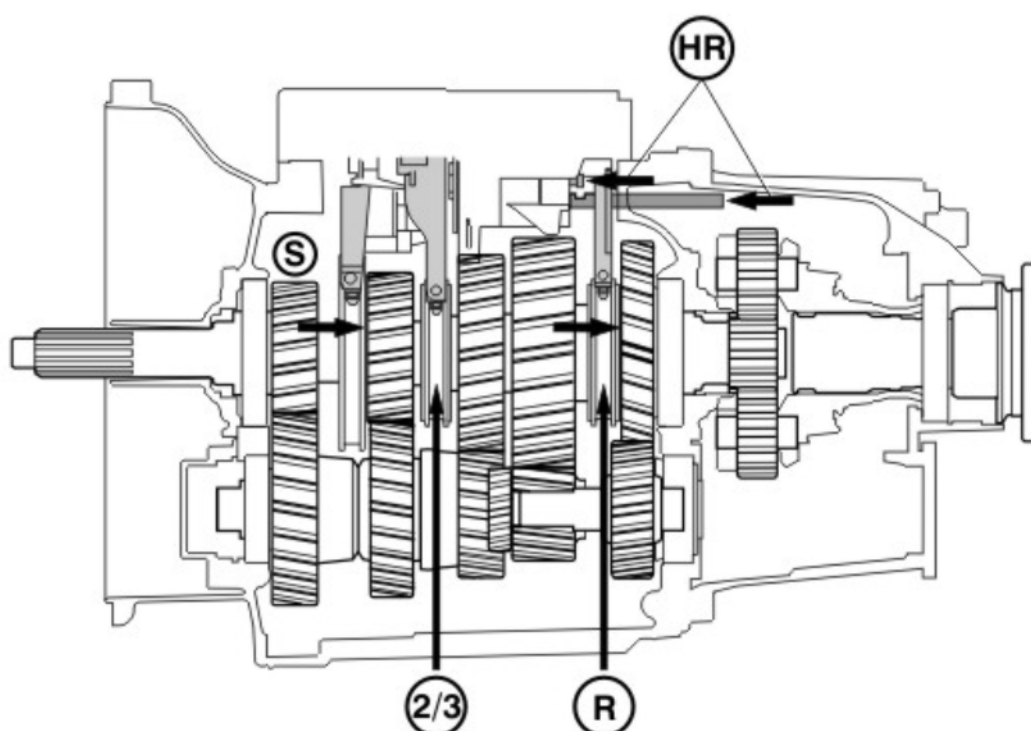

Figure 1
- Ensure that the split engaging ring is in its rear most position. Ensure that the 2nd/3rd engaging ring is in neutral or middle position and that the reverse gear engaging ring is in its rear most position (Figure 1). Also ensure that the range gear is in high range (Figure 2).